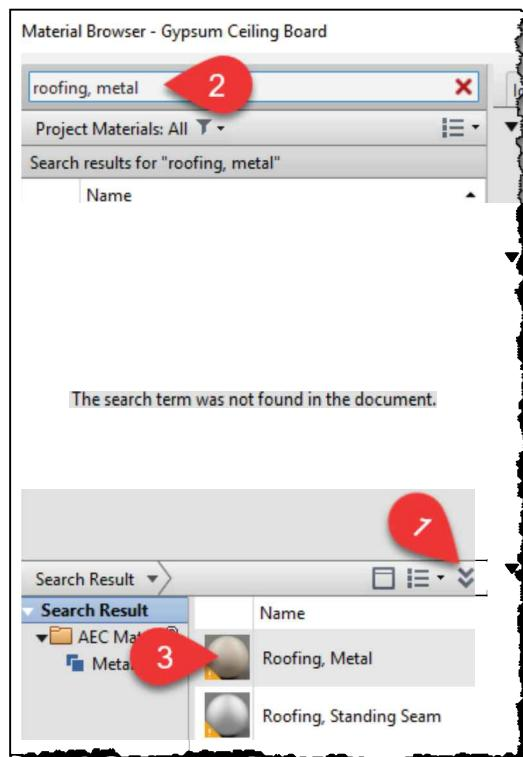

FIGURE 10-5.17 Materials dialog
45. Select **Roofing, Metal** from the list of predefined *Materials* (i.e., the AEC Materials library). See Fig 10-5.17.